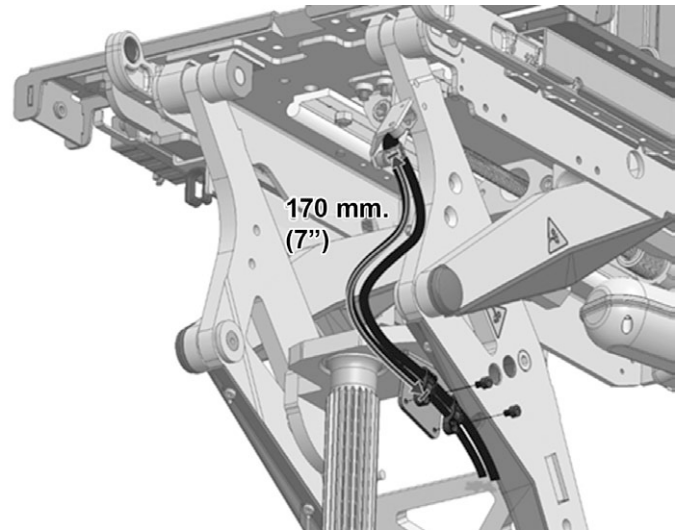

Figure 143. The length of the cable loop between the cable brackets on the upper- and lower part of the AP elevator must be 170 mm. (7").
7. The length of the cable loop between the cable brackets on the upper- and lower AP elevator arm must be 170 mm. (7"). See fig. 143.